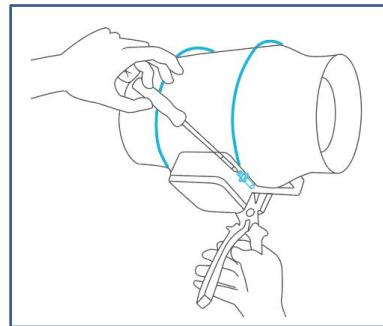

Fig.10.
5、Place the metal rings back onto the flanges and tighten the screws back to secure the fan. See the (Fig.10.)